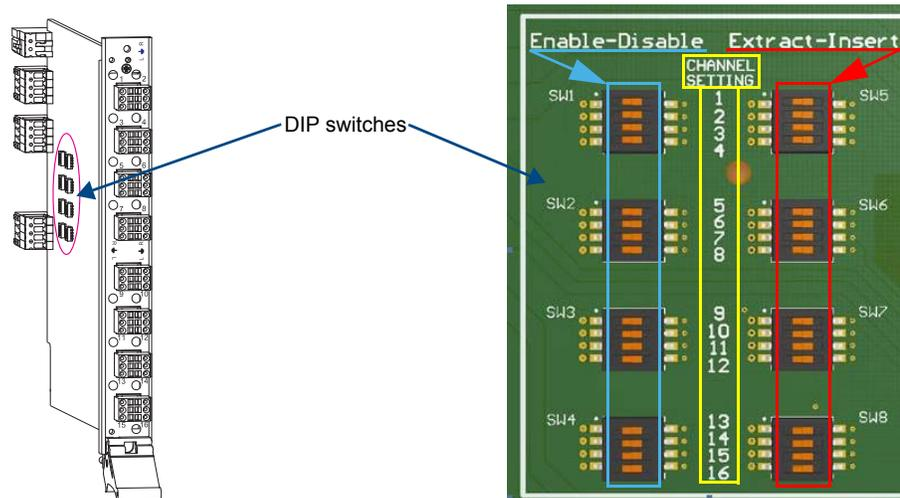

FIG. 78 Flip DIP switches to change settings
Each board has two DIP switches per AIE connector with the corresponding AIE connector number displayed vertically between the switches (labeled “Channel Setting” – see FIG. 78 below).
- Located on the left (see blue rectangle in FIG. 78).
- Located on the right (see red rectangle in FIG. 78).